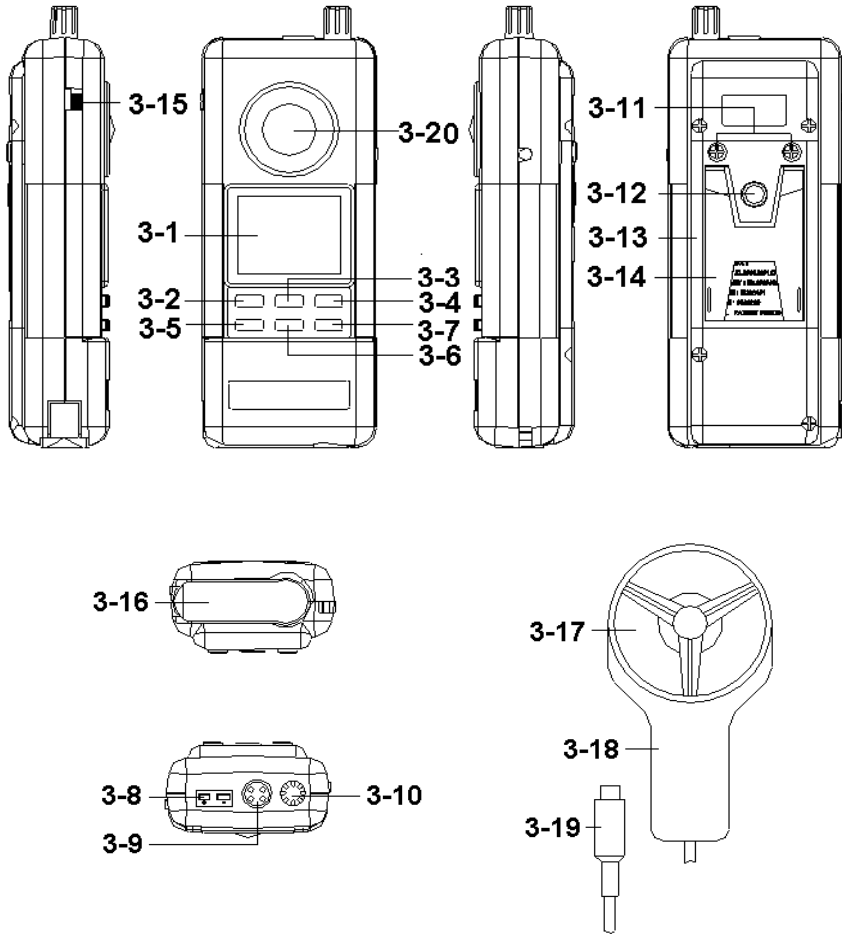

Fig. 1
Slide the " Power type switch " (3-15, Fig. 1) to the " G " position, the meter will offer the power source from the Handy generator (Green power), battery is no need.
- 1) There is a " Power generator's handle " (3-16, Fig. 1) on the bottom of the housing case.
Install the DC 9V battery into the " Battery compartment " (3-13, Fig. 1)
Slide the " Power type switch " (3-15, Fig. 1) to the " B " position, the meter will offer the power source from the battery.
- 1) Install the " Anemometer Probe Plug " (3-19, Fig. 1) into the " Anemometer Socket " (3-9, Fig. 1).
- 2) Power on the instrument by pressing the " Power Button " (3-2, Fig. 1).
- 3) Select the Anemometer function by pressing " Function Button " (3-7, Fig. 1).
- 4) Press the " Unit Button " (3-5, Fig. 1) to select the measuring unit (m/S, Ft/min, Km/h, Knots, MPH), then face the " Anemometer Probe Head " (3-17, Fig. 1) to the source of wind.
- 5) Hold the " Probe Handle " (3-18, Fig. 1) by hand, let the " Anemometer Probe Head " (3-17, Fig. 1) face against the measuring air flow source, Display (3-1, Fig. 1) will show air velocity directly. At the same time, the display will show the air temperature value.
- 1) Power on the instrument by pressing the " Power Button " (3-2, Fig. 1)..
- 2) Plug a type K thermocouple probe in the " Type K Temp. Socket " (3-8, Fig. 1).
- 3) Select the Temperature function by pressing " Function Button " (3-7, Fig. 1)
- 1) Power on the instrument by pressing the " Power Button " (3-2, Fig. 1).
- 2) Select the Humidity function by pressing " Function Button " (3-7, Fig. 1).
- 3) Display will show humidity and temperature value that sensing from the " Humidity Sensor " (3-10, Fig. 1).
- 2) Select the Light Measurement function by pressing the " Function Button " (3-7, Fig. 1) until the light value is displayed.
- 3) Display will show the light value that sensing from the " Light Sensor " (3-20, Fig. 1).
- 4) Press the " Lux/Ft-cd Button " (3-6, Fig. 1) to select measuring unit " Lux " or " Ft-cd ".
- * For best results zero the light sensor prior to use in a dark environment. Placing the light sensor end of the meter under a desktop or flat surface so as to block any light can accomplish this. Then press the " Unit/Zero Button " (3-5, fig. 1) to set the meter indication to zero.
During the temperature measurement, if intend to change the temperature unit from " °C " to " °F " or " °F " to " °C " , then just press the " °C/°F Button " (3-6, Fig. 1) once.
Whenever press the "Hold Button " (3-3, Fig. 1) will freeze the current reading value with a " HOLD " symbol on the display.
- 1) The Data Record function records & displays the maximum and minimum reading values. Start the Data Record function by pressing the " Max./Min. Button " (3-4, Fig. 1) once. There will be a " REC " symbol on the display.
- (a) Press the " Max./Min. Button " (3-4, Fig. 1) once and the " Max " symbol along with the maximum value will appear on the display.
- (d) Clear the Max./Min. value recorded by pressing the " Hold Button " (3-3, Fig. 1) once. Previous recorded Max./Min. value will be given up and then revert to the REC. function keep on recording.
To de-activate this feature, Select the memory record function during measurement, by pressing the " Max/Min Button " (3-4, Fig. 1).
Loose the " Screws for battery cover " (3-11, Fig. 1) and open the " Battery Cover " (3-13, Fig. 1) away from the instrument and remove the battery.